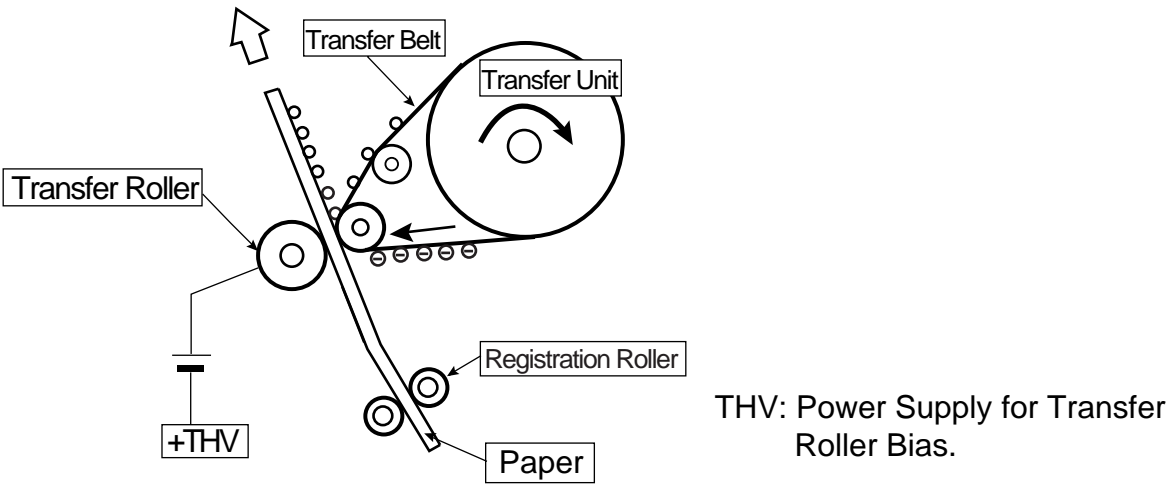

Fig.4-21
- (2) Process of Belt Cleaning (Refer to Fig.4-21.)